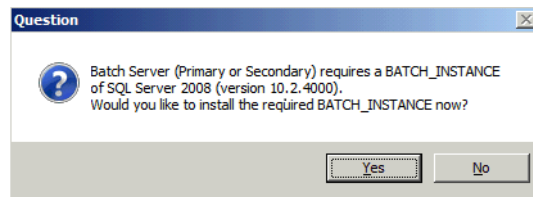
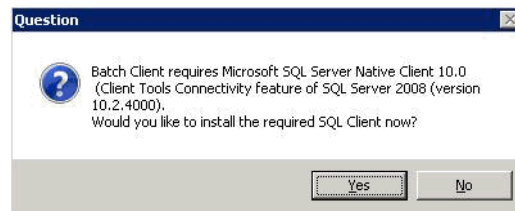

Figure 53. Message Box for Batch Management Primary or Secondary Server Installations
Figure 54. Message Box for Batch Management Client Installations
- d. **Message box:** The message box differs depending on what was selected in the Setup Type dialog box in Step a. Figure 53 shows the message box for the Batch Management Primary or Secondary Server installations and Figure 54 shows the message box for the Batch Management Client installations. Click **Yes** to continue with the installation. Proceed to Step e for Batch Management Primary or Secondary Server installations. Wait for the installation to complete for Batch Management Client installations.